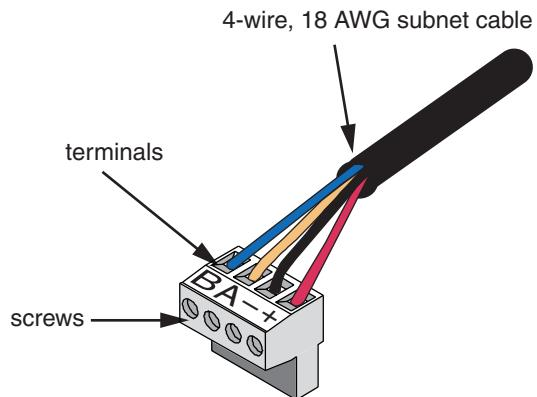

Figure 4: Subnet connector plug wire installation
3. Using the same process above, secure the wires into the remaining three terminals A, −, and + (see Figure 4).